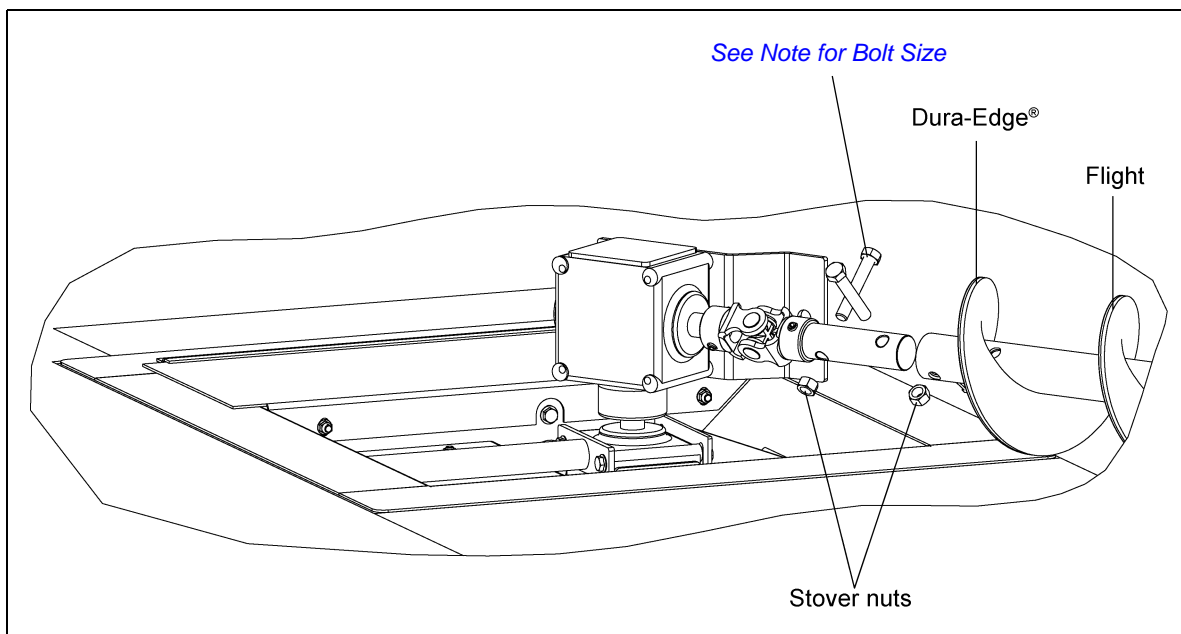

Figure 4Z
4. Attach a flighting section to the U-joint stub located on the gearbox. Making sure that the Dura-Edge[®] side of the flight faces the center of the bin. Secure it with bolts and stover nuts. (See Note for Bolt Size and Figure 4Z.)